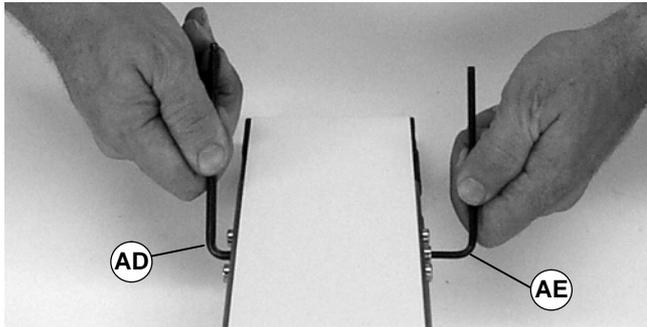

Figure 22
5. While maintaining tension on pinion gear (AD of Figure 22) loosen lock screw (AE). Rotate pinion gear (AD) clockwise to release conveyor belt tension.
6. While maintaining tension on pinion gear (AD of Figure 22) loosen lock screw (AE). Rotate pinion gear (AD) clockwise to release conveyor belt tension.
2. With pinion gear engaged, insert a 4 mm hex key wrench into lock screw (AE of Figure 22).
3. Loosen lock screw (AE of Figure 22).
5. Secure lock screw (AE of Figure 22) to 4.5 Nm.